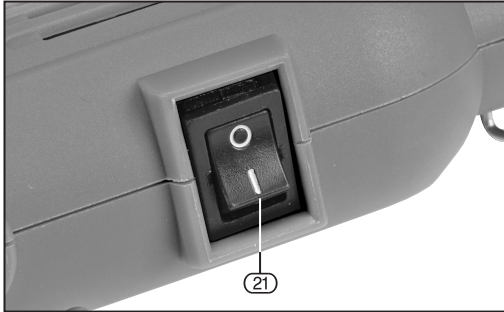

FIG. 1
6.1 SWITCHING ON AND OFF – FIG.1